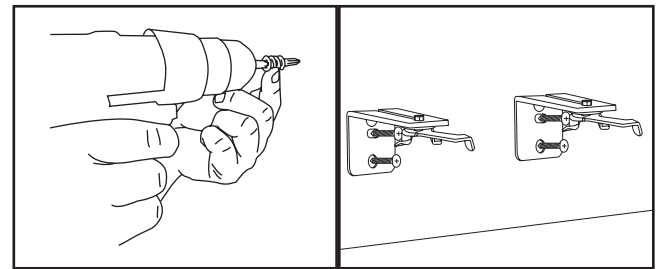

Figure 8 - Screw in wall anchor and install brackets
A) **If using wall anchors**, follow the manufacturer specifications for each wall anchor. In cases where the anchor needs to be installed through drywall mud and drywall tape, a 1/4" pilot hole is recommended. Using firm pressure square to the wall will reduce the likelihood of wall anchors stripping. Avoid stripping the anchors by reducing torque level on your drill. Place the bracket against the wall, lining the holes up with the anchors. Screw in each screw to secure bracket. Do not over torque. There should be no bracket movement after installation. Top of bracket should be level after installation. See Figure 8.